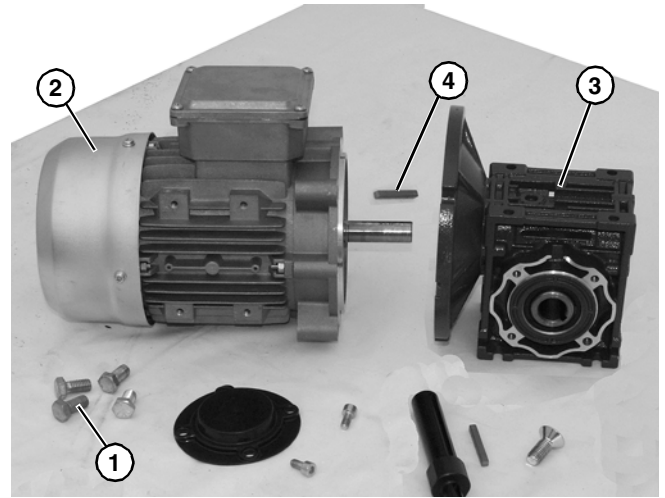

Figure 19
- Remove four screws (**Figure 19, item 1**). Detach motor (**Figure 19, item 2**) from gear reducer (**Figure 19, item 3**). Retain shaft key (**Figure 19, item 4**).
9. Apply anti-seize to motor shaft before assembling to gearbox. With key (**Figure 19, item 4**) in keyway, slide motor (**Figure 19, item 2**) and gear reducer (**Figure 19, item 3**) together. Install screws (**Figure 19, item 1**) and tighten.
4. Apply anti-seize to motor shaft before assembling to gearbox. With key (**Figure 19, item 4**) in keyway, slide motor (**Figure 19, item 2**) and gear reducer (**Figure 19, item 3**) together. Install screws (**Figure 19, item 1**) and tighten.